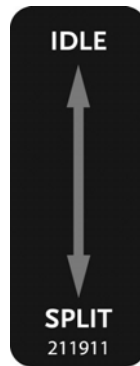

Figure 11
2. Push the Operating Handle down (**Figure 11**). The Ram will now compress the log against the wedge, splitting the log.